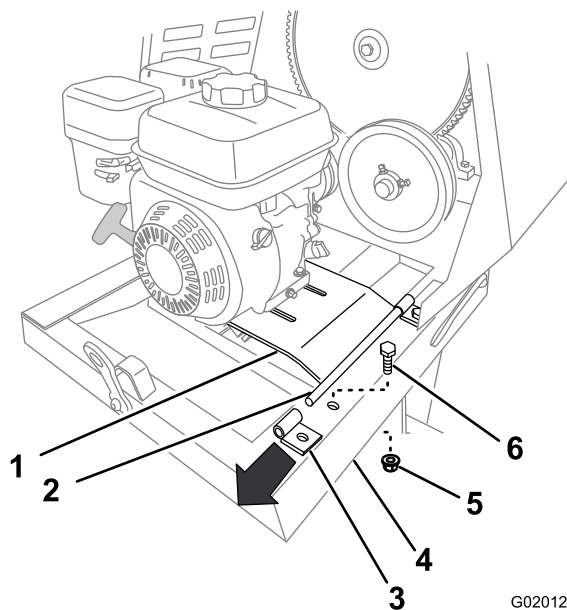

Figure 50
6. Remove the bolt and nut that secures the rear bracket for the engine deck hinge to the frame of the machine (Figure 50).
7. Lift up on the rear edge of the engine deck and remove the hinge bracket (Figure 50).
6. Secure the rear bracket to the frame of the machine using the bolt and nut (Figure 50) removed in step 6 of Removing the Engine (page 30).